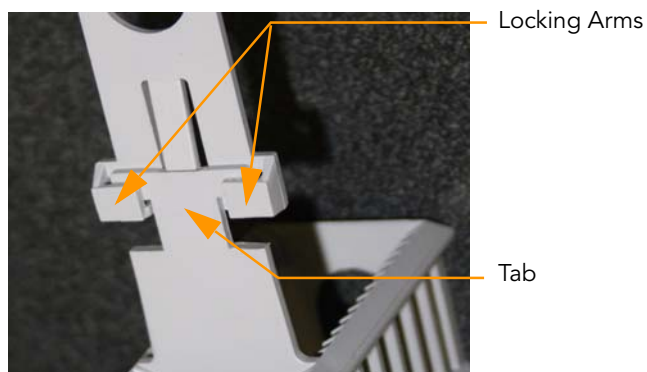

Figure 59 Staining Rack Locking Arms and Tabs
4. Submerge the unloaded staining rack into the wash dish with the locking arms and tab **facing you** (Figure 59). This orients the staining rack so that you can safely remove the BeadChips.